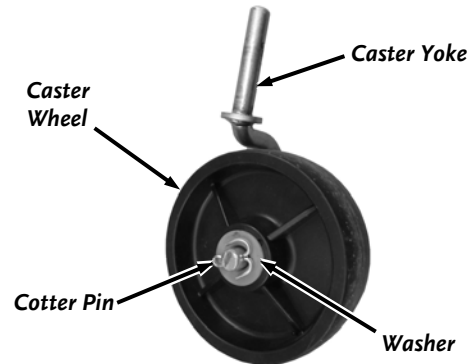

Figure 8
8. Place the Caster Wheel onto the Caster Yoke and secure with a 5/8" Washer and Cotter Pin using Pliers (**Figure 8**).